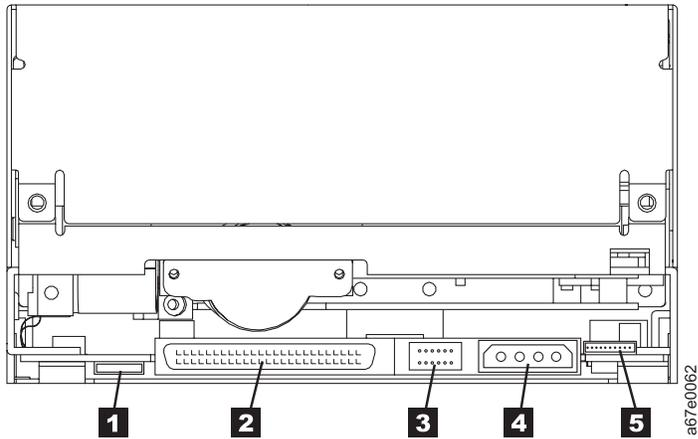

Figure 1. Rear view of the IBM 200/400GB LTO-2 Tape Drive
You can set the SCSI ID on the LTO-2 by installing 2-mm jumpers on the drive's SCSI ID connector (see **3** in Figure 1 on page 7). Your tape drive may come set to a default SCSI configuration, with jumpers already installed. You can change the SCSI ID by rearranging, adding, or removing jumpers.
1. Locate the SCSI ID connector (see **3** in Figure 1 on page 7).
For applications that use a SCSI ID switch (like an external enclosure), connect the switch to the drive's SCSI ID connector (see **3** in Figure 1 on page 7). If any jumpers are pre-installed, be sure to remove them before connecting the switch. The SCSI ID switch must be compatible with the drive's SCSI ID connector and must make an electrical connection between the same pins as the jumpers to achieve the same corresponding SCSI ID.
- ___ 3. Connect the server's internal power cable to the power connector on the drive (see **4** in Figure 1 on page 7). Ensure that the connector is properly connected.
Connect one end of the SCSI cable that came with the tape drive to the SCSI connector on the drive (see **2** in Figure 1 on page 7). Connect the other end to the SCSI connector within your server.